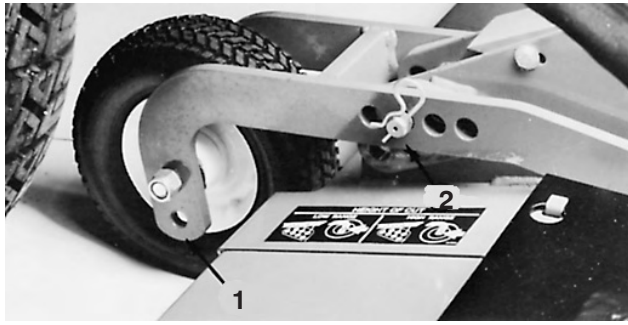

Figure 75
1. Adjust cutting unit to highest height-of-cut. Position castor wheel axles in lower castor fork holes (Fig. 75 and 76). If checking front cutting unit, reposition two rear castor's clevis pins to highest height-of-cut setting (Fig. 75). On the front castors, move all castor spacers to the underside of the castor arms (Fig. 75). To check outboard units, move all castor shaft spacers to the underside of the castor arms and castor wheel axles to lower castor fork holes.